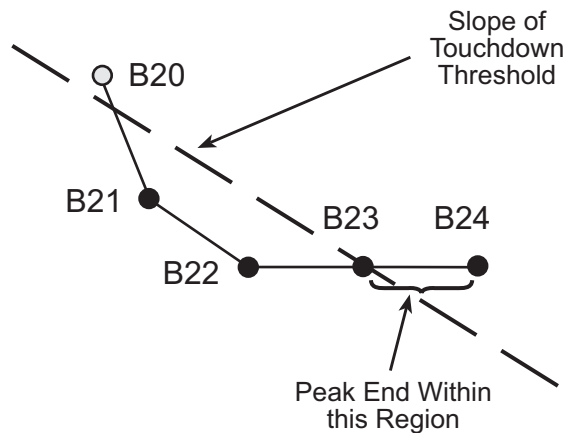

Figure 3-4 Determining Peak End
- Proceeds from this peak start point to the peak apex test and continues until it successfully determines peak touchdown (Figure 3-4).